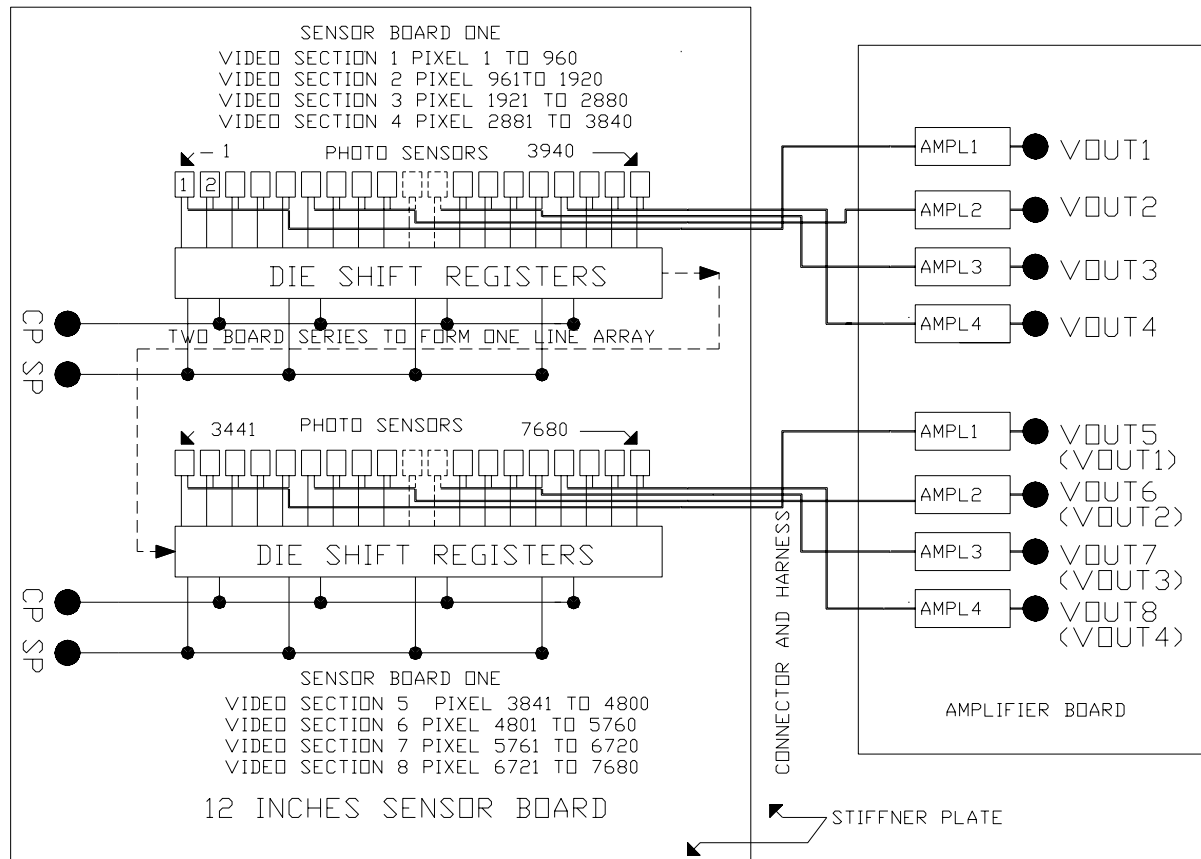
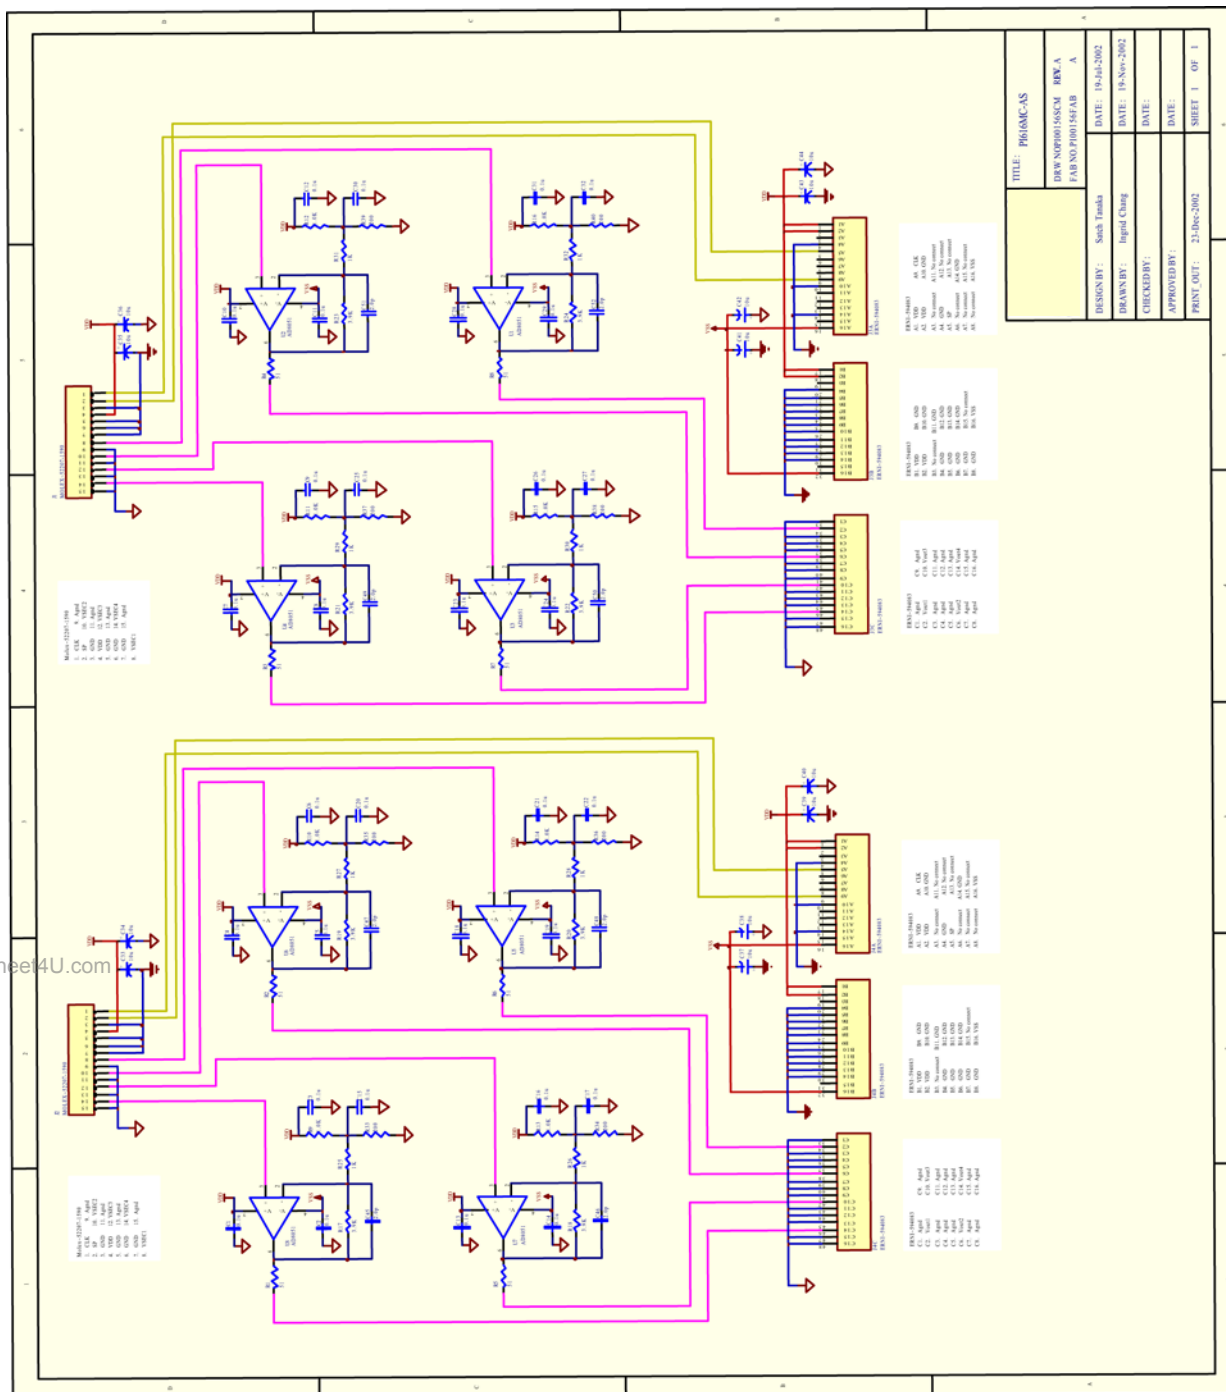

Figure 1: Simplified Circuit Block Diagram
Figure 5: CKT 2 - Amplifier Board Schematic
10.0 Block Diagrams - Figures 1, 2 and 3
Two reference schematic diagrams are attached to this document (Figure 4 and Figure 5). Only one schematic, CKT 1, Schematic (Figure 1), is required to represent both the Sensor Board 1 and 2 because the circuits are identical. The second one is for the amplifier board and it contains all eight of the amplifiers on one schematic. The circuit description of its structure and operation has been briefly discussed in Section 1 of this document. Its operation follows from the discussion of the simplified block diagram. There are only two input control clocks for the circuits, CP and SP. SP starts the shift register scanning while CP clocks the register and produces the video pixels at its same rate. The clocks are entered through the I/O connectors on both sensor boards. They are both externally buffered with the 74HC00 hexes and applied to the inputs of the image sensors. On each of the two-image array sensor boards there are four sequential video sections. Each video section contains a row of five sequential image array sensors, AMIS-720639. These are all clocks in parallel with CP. The four sections on both boards are clocked with SP in parallel, to initiate all eight video sections and simultaneously begin the eight sequential readouts. All eight lines, four in each sensor board, have reset switches, BU4S66, which parallel resets the video pixel charges after they are readout. These pixels, read out in parallel, are applied to their respective output amplifiers on the amplifier board.
The second schematic, CKT 2, Amplifier Board Schematic (Figure 5), is the amplifier board. There are eight amplifiers for processing the output videos from both sensor boards. The amplifier board receives the inputs from the sensor board output connector, J1, through two harnesses. They are connected into the input I/O connectors, J1 and J2, of the amplifier board. Since there are two sensor boards using the same schematic representation, the connector on Sensor Board 1, J1, becomes J2 for the second board. They are physically differentiated and marked as J1 and J2 on the stiffener board. Since all eight sections process their video signals through identical amplifiers, only one amplifier circuit is discussed. The AD8051 is an operational amplifier, which is configured into a non-inverting buffer amplifier with a gain of $\cong 4.5$. It is used to isolate the video line from its external circuits. The isolated video line then serves as a storage capacitance for the pixels outputs. The pixel charges are read out onto the video line capacitance and integrated. This integrated pixel charge, converted to a voltage pulse, is amplified and produced at the output I/O. The reset switch on the video line, which is located on the sensor board schematic, resets the pixel signal charge prior to the readout of following pixel.